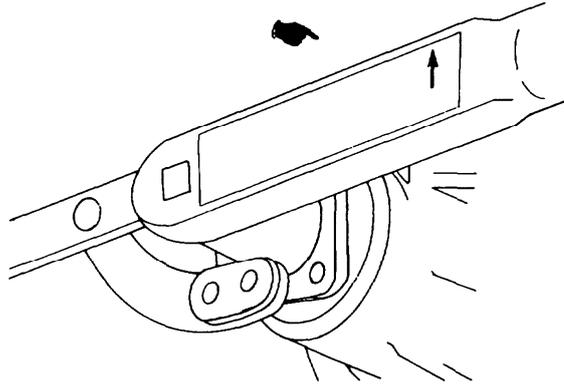

Figure 105 Front Differential Pinion Flange Nut Removal
- d. Using the adjustable wrench (Table 3, Series 5) to prevent the coupling flange rotating, remove the flange slotted nut (Figure 105).